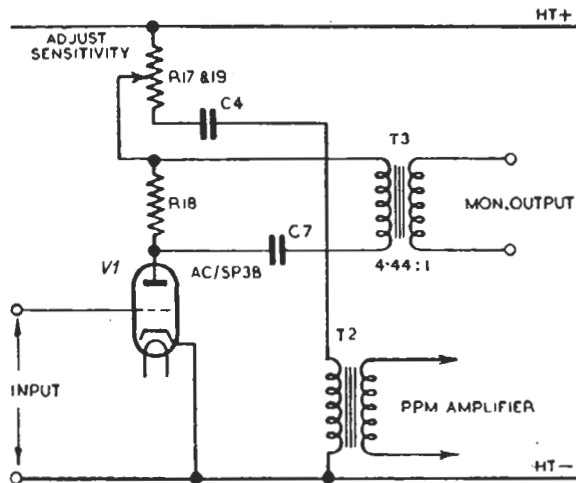

Fig. 11.2. MNA/1. Simplified Circuit of V1
- (b) The anode load of V1 consists of R17 and R19 in parallel and R18 as shown in the simplified circuit diagram, Fig. 11.2. The p.d. developed across the parallel network is used to feed the programme meter amplifier via C4 and T2, and the amplitude of the signal thus obtained can be adjusted by varying R17, this being the *Adjust Sensitivity* control. The particular arrangement